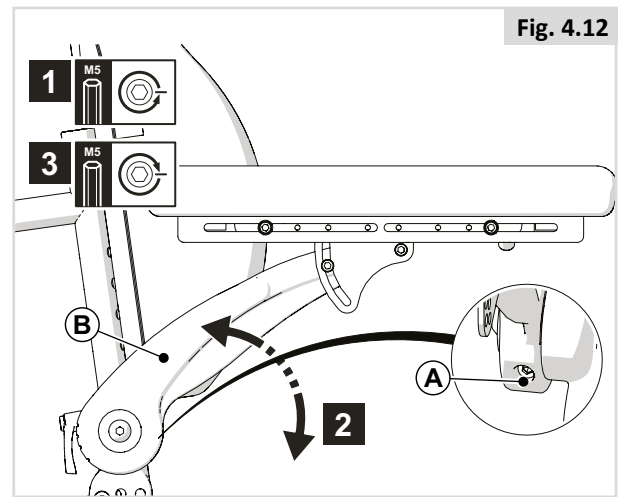

Fig. 4.12
PART 1 (Fig. 4.12)
In order to reach the rear screw in lower armrest heights, loosen screws (A) of Fig 4.12 and adjust the angle of the pad first.